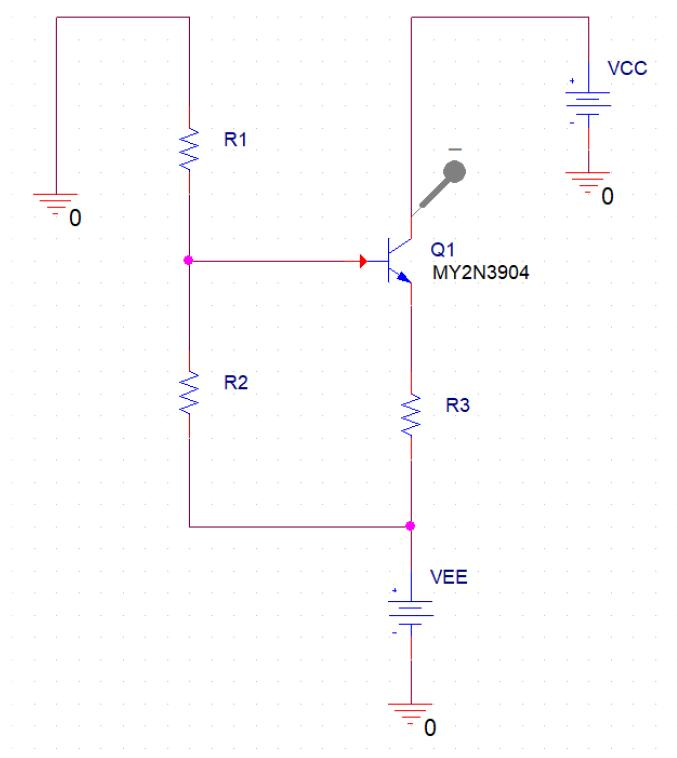

Fig. 6 Constant current sink using an NPN-BJT 2N3904
- 3.1 In PSpice, construct a current sink as shown in Fig. 6 and load the SPICE 3 model parameters for Q1 following the same procedure as in Step 1.1.
To avoid the change in I_B , we connect R_3 to the emitter of the BJT, as shown in Fig. 6, to work as a feedback resistor. For example, if $|V_{EE}|$ reduces, which causes I_B to be smaller than the designed value, the resulting I_E will produce a smaller voltage drop across R_3 and reduce V_E at the emitter terminal of Q_1 . This reduced V_E will increase the V_{BE} of Q_1 and, therefore, I_B .
Fig. 7 The equivalent circuit for the constant current sink in Fig. 6 with R_1 , R_2 , and power supply replaced by its Thevenin equivalent circuit V_{BB} and R_{BB} .
Q7. (15 Points) Inserting the feedback R_3 at the emitter of the BJT not only stabilizes the I_B but also improves (or increases) the output resistance R_o of the current sink shown in Fig. 6/Fig. 7 (i.e., I_o is
Q10. (10 Points) When designing the constant current sink shown in Fig. 6, we assume that $|V_{CE}| \geq 0.3\text{V}$ and Q_1 works in the active region. Based on the resistance values obtained in Q9, sweep V_{CC} in Fig. 6 from -5 V to $+5 \text{ V}$ with a 0.05 V step and measure V_E and I_C to determine the $|V_{CE}|$ required for Q_1 to work in the active region.